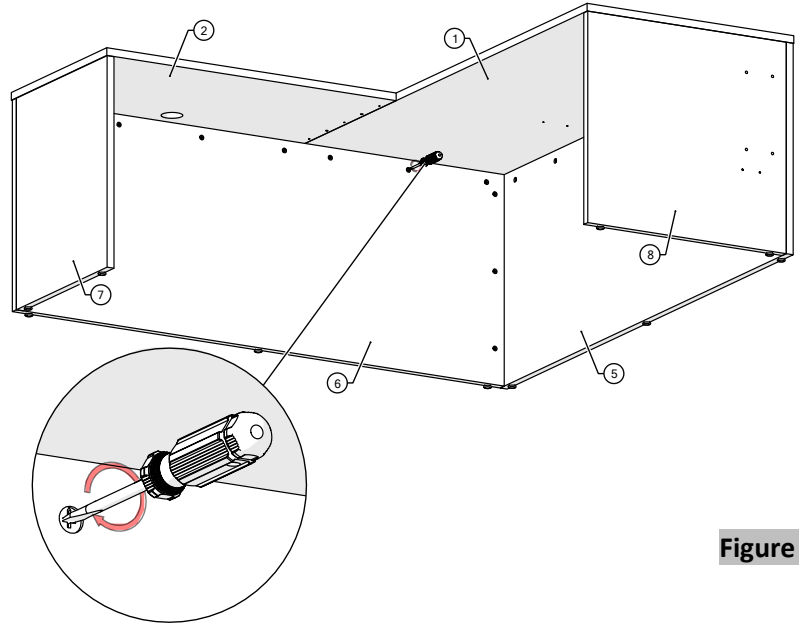

Figure 9
9. Turn the Cams using a screwdriver in a clockwise direction to smoothly lock the assembled unit and worksurfaces together (Figure 9).